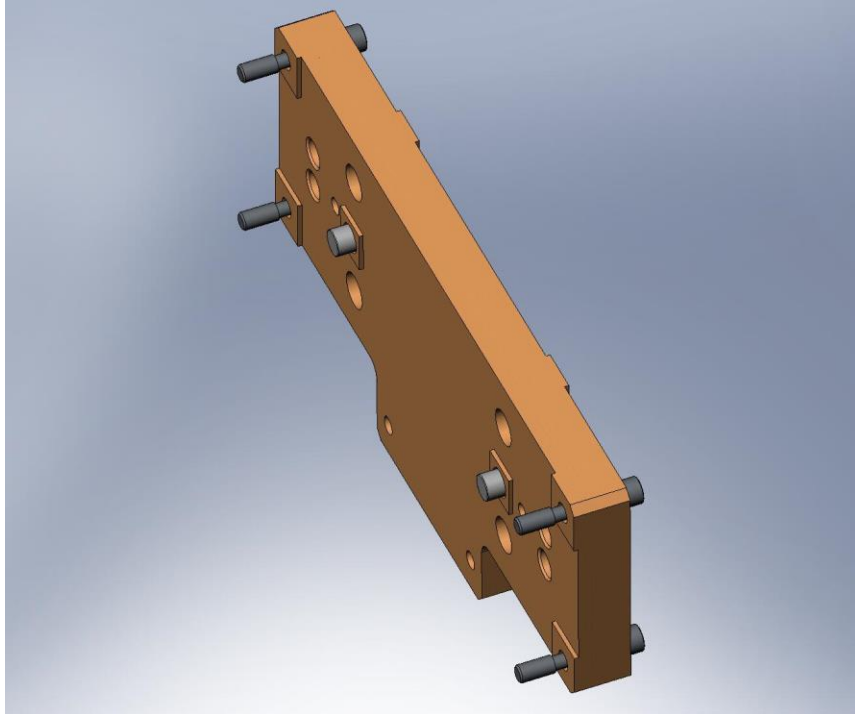

Figure 4.17. Actuator Magnet Mount with Captive Screws and dowel pins installed.
- Press (2) 3/8"x.75" dowel pins into bottom of **Actuator Magnet Mount** (D071120). Pins should remain .25" proud of the plate surfaces.
- Thread (4) **Captive Screws** into the **Actuator Magnet Mount**, as shown in Figure 4.17. These are later used to mount the **Actuator Assemblies** to **Stage 1**, but are also needed to bolt to the **Set-Up Fixture**.